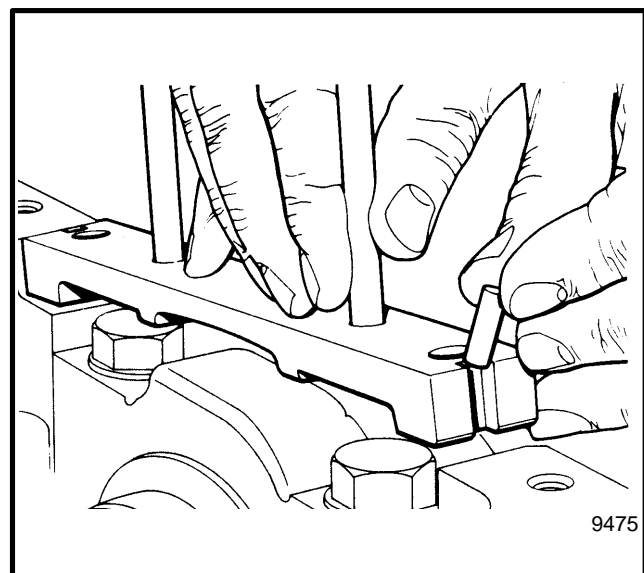

FIGURE 24. MAKE SURE SUPPORT IS EVEN WITH CRANKCASE
6. Install the support for the rear main bearing. Use new seals when installing the support. Make sure the rear surface of the support is even with the rear surface of the crankcase. See FIGURE 24.